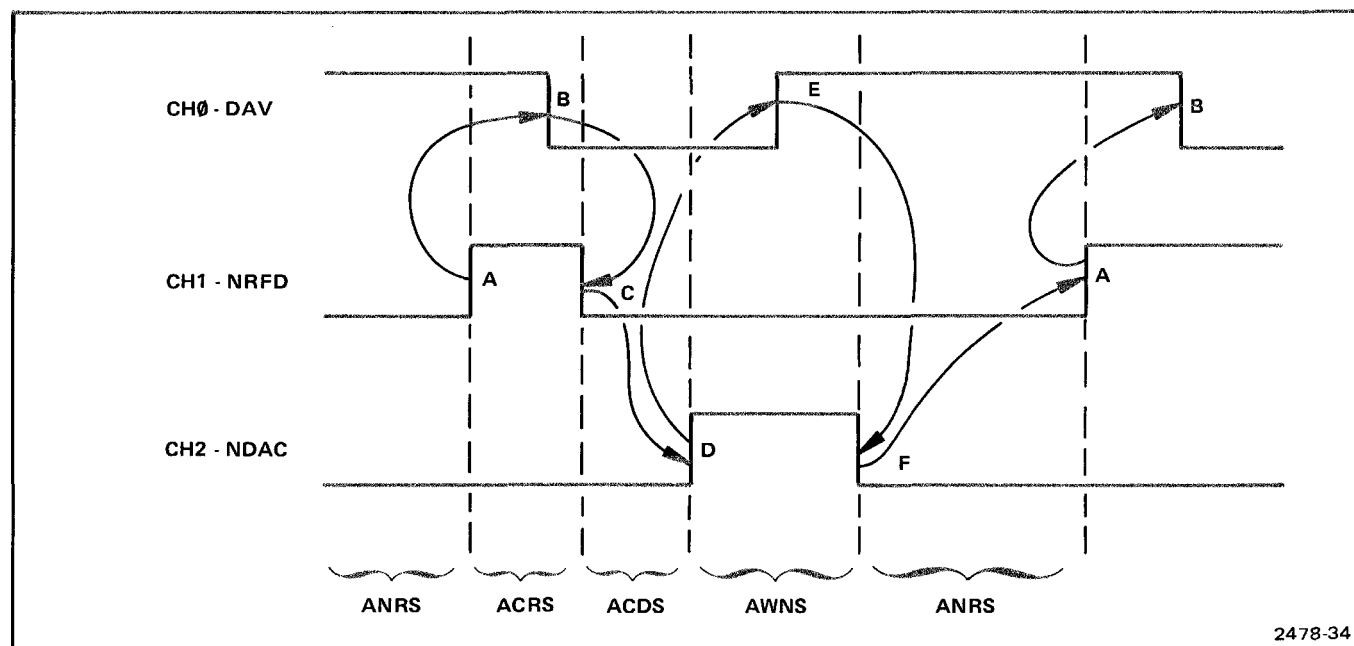

Figure 3-10. GPIB handshake timing diagram.
7. Adjust the sample interval switch and push the Reset button to reacquire data, until the timing diagram on the crt resembles the handshake timing diagram shown in Figure 3-10.
All six states, A thru F, must be in the exact order depicted in Figure 3-10 for the handshake cycle to be working correctly. (Refer to GPIB Overview previously described in this section.) If no handshake is occurring on the crt display, the level of the three lines will indicate what state the handshake is in. For additional information refer to the AH (Acceptor Handshake) State Diagram in Figure 3-11 and IEEE Standard 488-1975.
4) Obtain a handshake cycle display as shown in Figure 3-10. The trigger should have occurred on NDAC going high indicating that the listener(s) accepted the decimal point (the ASCII period) on the GPIB.